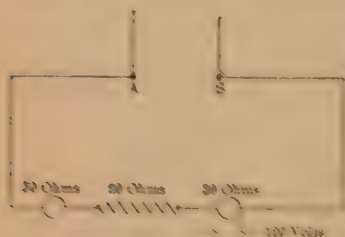

FIG. 35. Two lamps and a coil in series.
**Example 3.** In Fig 35 a lamp of 50 ohms, a resistance of 20 ohms, and another lamp of 30 ohms are connected in series across